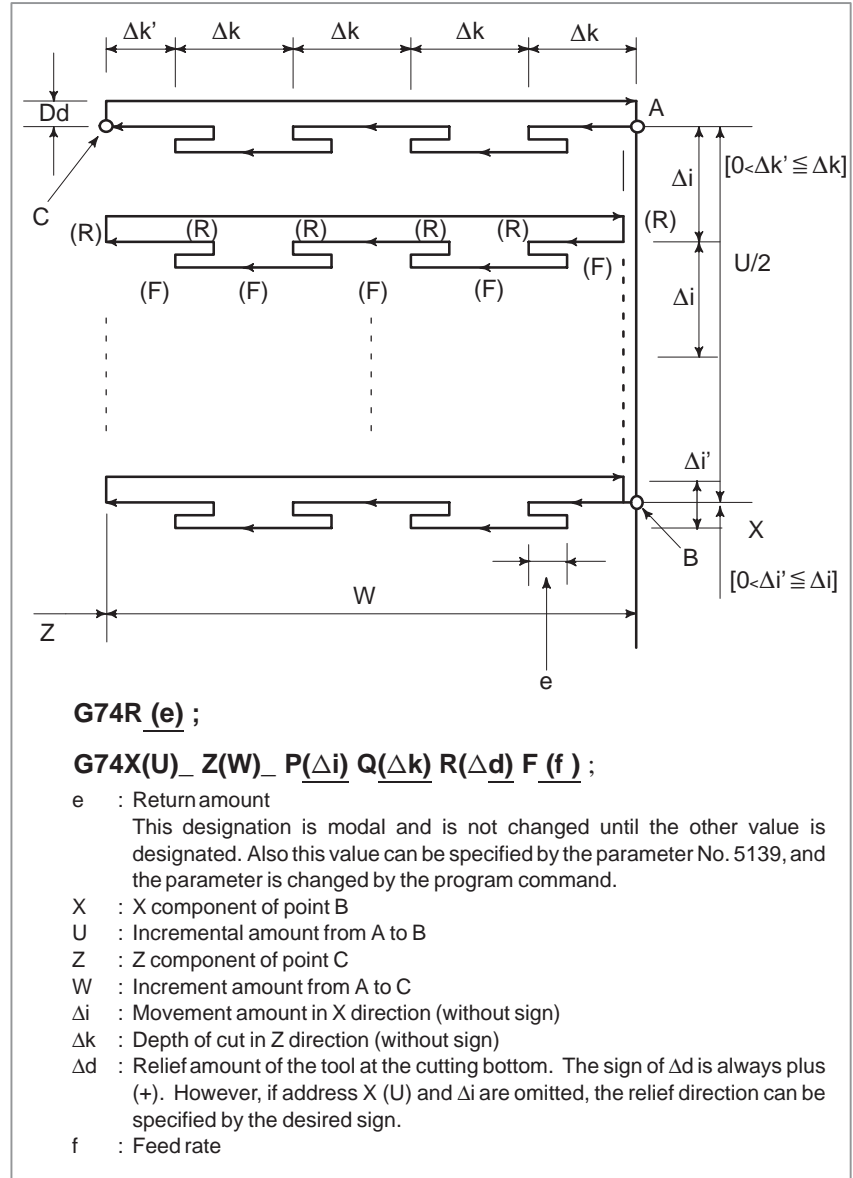

Fig. 13.2.5 Cutting path in end face peck drilling cycle
The following program generates the cutting path shown in Fig. 13.2.5. Chip breaking is possible in this cycle as shown below. If X (U) and P are omitted, operation only in the Z axis results, to be used for drilling.